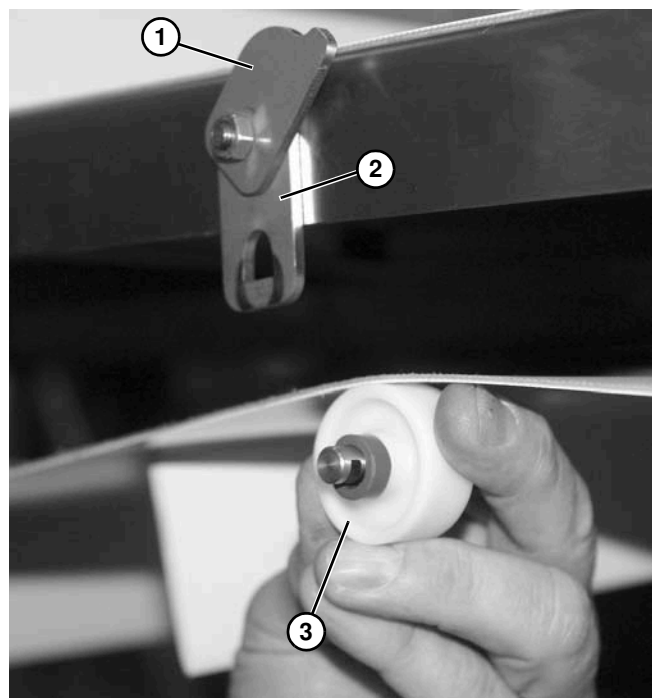

Figure 26
5. Raise clip bracket (**Figure 26, item 1**) from shaft bracket (**Figure 26, item 2**) on conveyor.
6. Install roller assembly (**Figure 26, item 3**) onto shaft bracket (**Figure 26, item 2**) on both sides of conveyor.